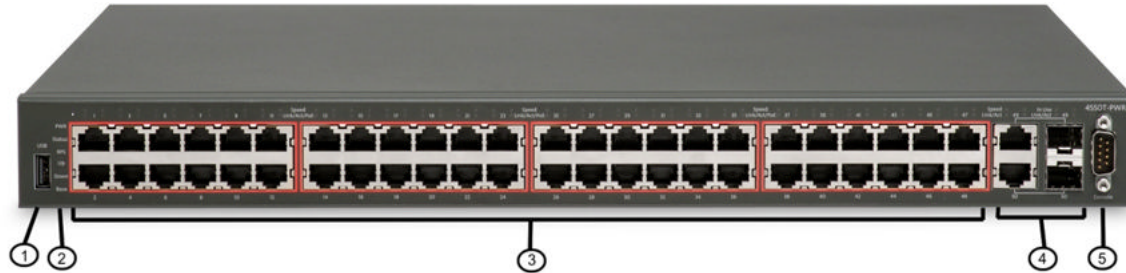

Figure 7: Avaya Ethernet Routing Switch 4550T-PWR
- Figure 7: Avaya Ethernet Routing Switch 4550T-PWR on page 39